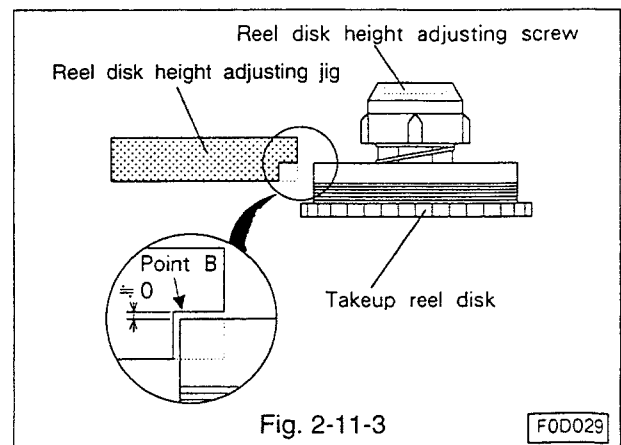

Fig. 2-11-3
- L. If the height of the disk is not satisfactory, hold the disk so that it does not turn, and turn the height adjusting screw at the top of the disk to adjust the height. (Refer to Fig. 2-11-3.)
- F. Turn the jig slowly about the point A towards the takeup reel disk to make certain that the height of the disk flange agrees with the point B on the takeup side of the jig(marked TU). (Refer to Fig. 2-11-3.)
- G. If the height of the disk is not satisfactory, hold the disk so that it shall not turn, and turn the height adjusting screw at the top of the disk to adjust the height. (Refer to Fig. 2-11-3.)